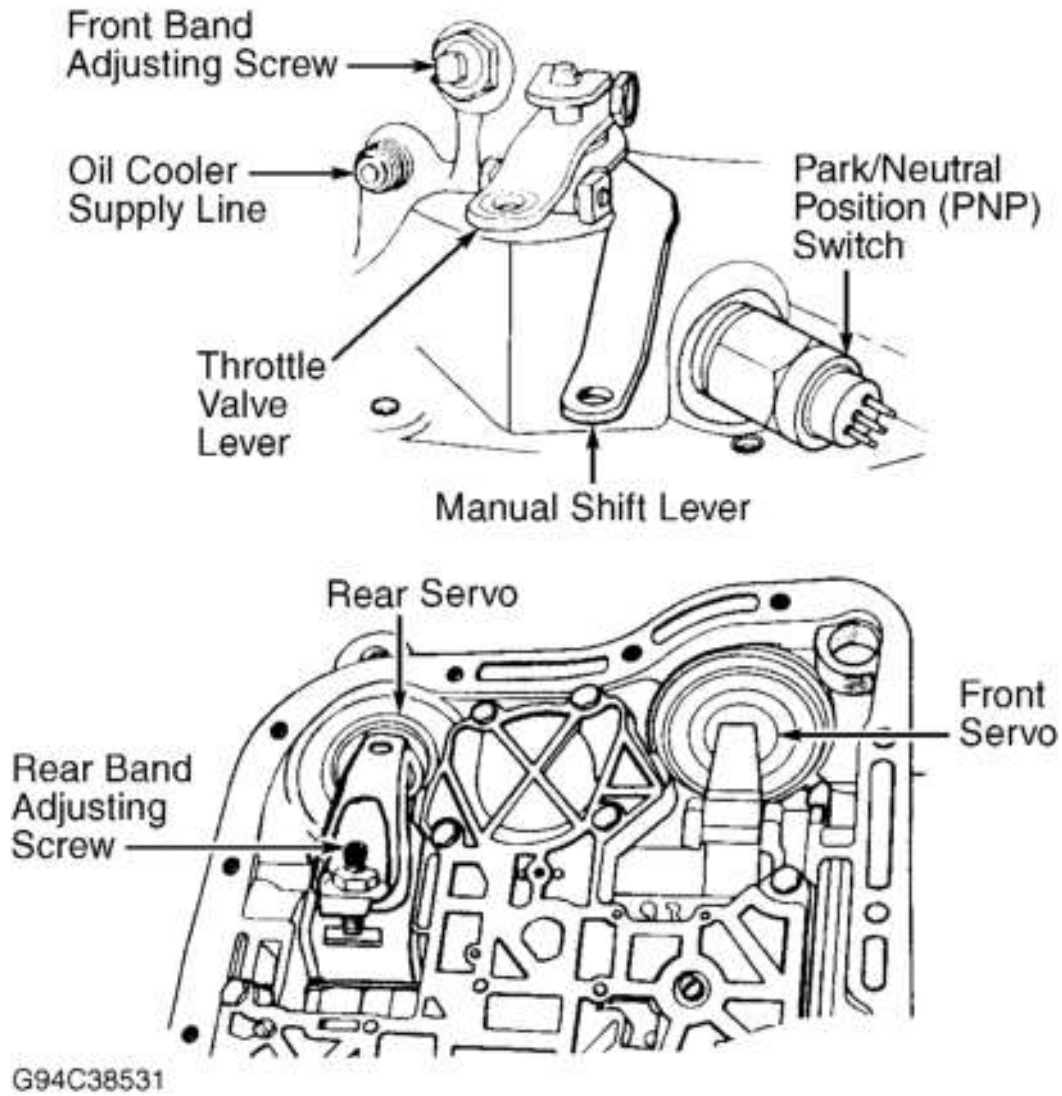

Fig. 12: Identifying Band Adjusting Screws & Servos
1. Raise and support vehicle. Place drain pan under PNP switch located near manual shift lever on transmission. See **Fig. 12** . Disconnect harness connector. Unscrew PNP switch from transmission case.
7. Loosen front band adjusting screw lock nut about 5 turns. See **Fig. 12** . Tighten front band adjusting screw until front band is tight around front clutch retainer. This prevents clutch components from coming out when oil pump is removed.
13. Loosen rear band adjusting screw about 5 turns. See **Fig. 12** . Remove low-reverse drum-to-overdrive piston retainer snap ring from inside of transmission case.
17. If removing servo components, note servo identification. See **Fig. 12** . To remove front servo, use "C" clamp and spring compressor to compress servo. Compress servo guide on front servo about 1/8".